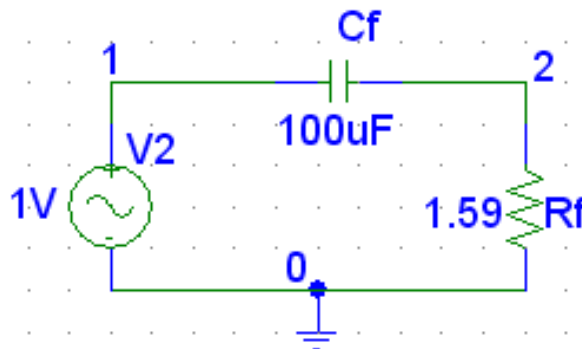

Figure 6: High Pass
2. Determine the cutoff frequency of the high-pass filter shown in figure 6 by pen and paper. Simulate the circuit using Frequency Sweep. Keep the cutoff frequency within the range of the sweep. Find the cutoff frequency from the plot of the voltage. Does the frequency obtained from the simulation and from the pen and paper match?
3. Cascade the low-pass and high-pass filters shown in figure 2 and figure 6 and form a band pass filter.